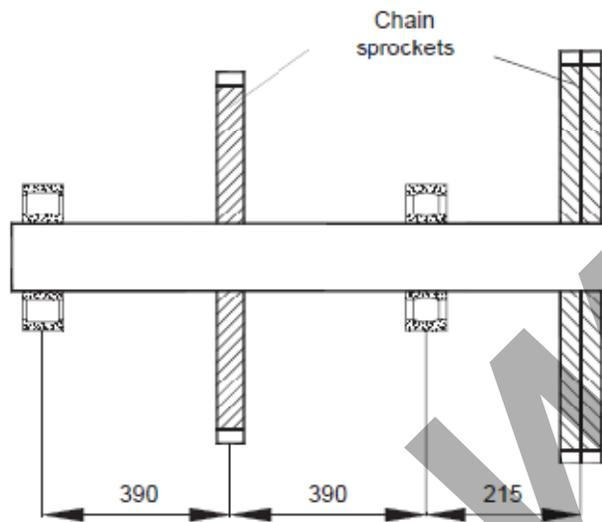

Figure 1
6. Determine the diameter of the drive shaft for a chain conveyor, which has the loading parameters illustrated in Figure 1. A roller chain sprocket of 500 mm pitch diameter, weighing 90 kg will be mid-mounted between two bearings. A 400mm, 125 kg roller chain sprocket will be mounted overhung. The drive shaft is to be manufactured using cold drawn 070M20 steel with UTS 1000MPa, YS 770MPa and Brinell Hardness approximately 220 BHN. The shaft will carry a steady driving torque of 1600 N m and rotate at 36 rpm. A sled runner keyway will be used for the overhung pulley and a profile keyway for the mid-mounted pulley